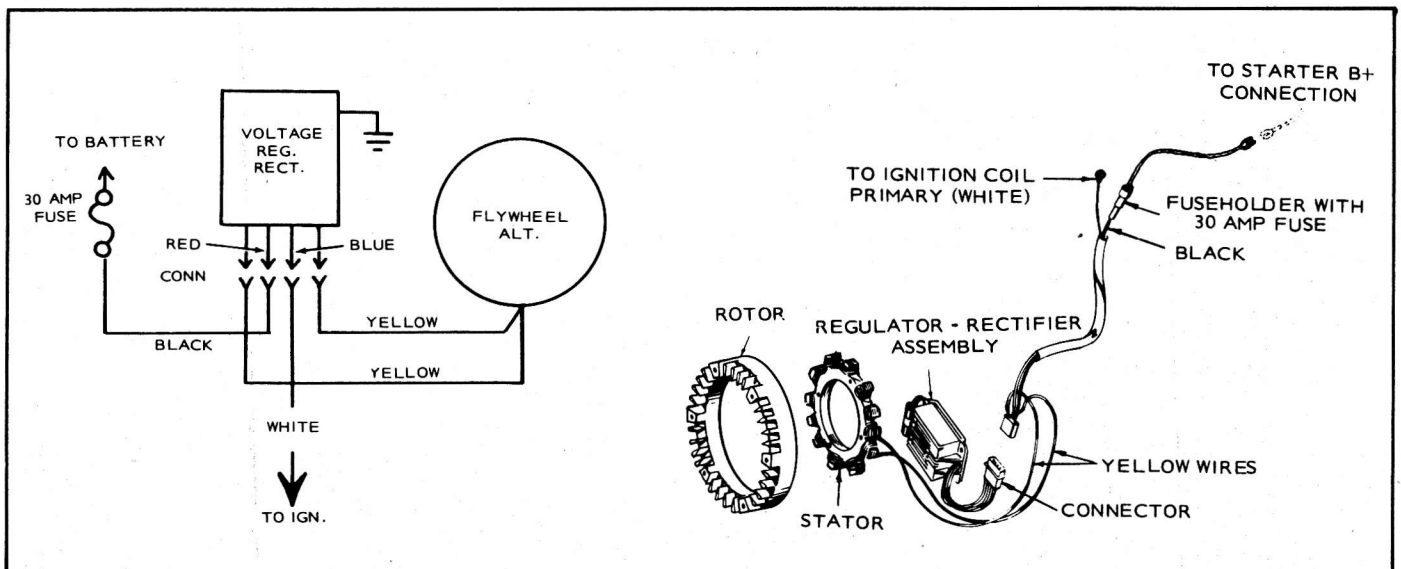

FIGURE 38. FLYWHEEL BATTERY CHARGING ALTERNATOR
The flywheel alternator is a permanent magnet alternator and uses a solid-state voltage regulator-rectifier for controlling output (Figure 38).
2. Insert test connectors from AC voltmeter between the two yellow wires (Figure 38).